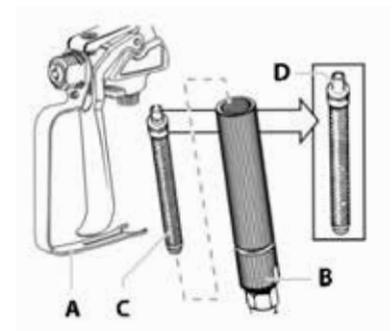

Fig.15
10.3 Cleaning the spray gun filter and spray gun tip assembly (Fig.15,16)